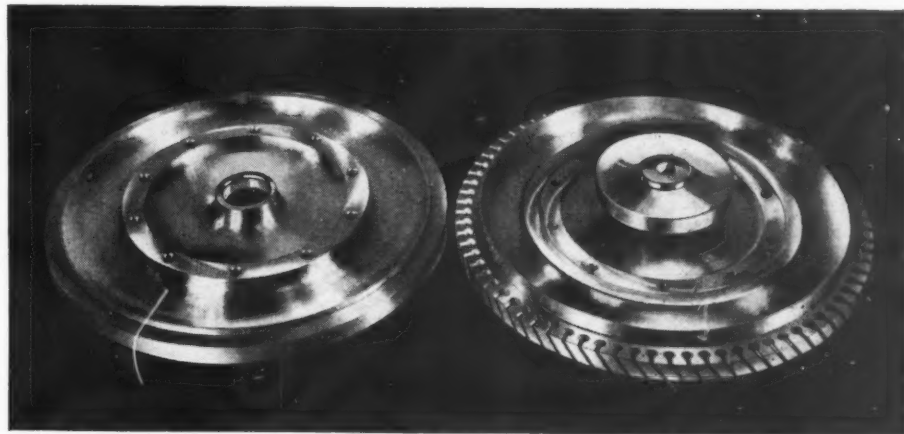

Fig. 1. Air-compressor Rotor Wheel of a Jet Engine before and after the Broaching of Slots in Its Periphery
**T**HE largest of eleven air-compressor rotor wheels for one type of jet engine requires seventy-eight equidistant slots to be cut around the circumference, as shown in Fig. 1. These slots, which hold the rotor-wheel blades, are circular in shape and must be cut at an angle of 35 degrees in relation to the axis of the wheel. This operation is performed by broaching on a Lapointe 15-ton, 66-inch stroke, vertical single-ram machine.